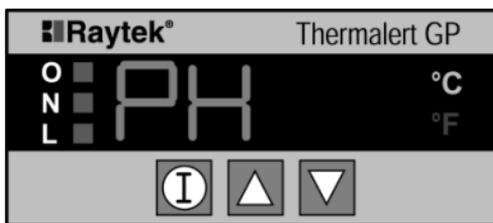

Figure 20: Peak Hold Display
1. Press and hold the  button, and press the  button, then release them both. The Peak Hold display appears, see Figure 20.
1. Press the  button and the  button simultaneously then release. The Peak Hold display appears, see Figure 20.